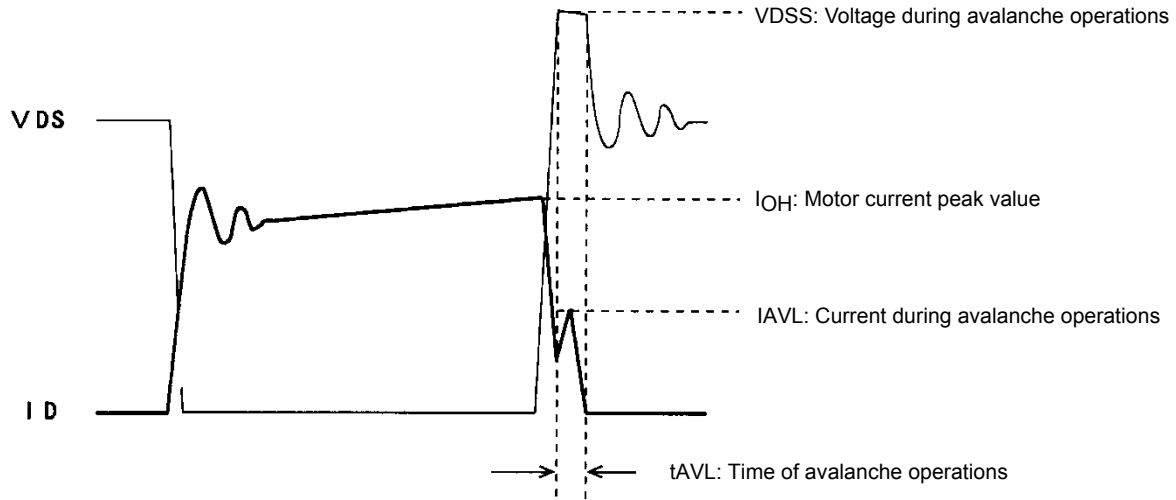

Figure 1 Output Current, I_D , and Voltage, V_{DS} , Waveforms 1 of the STK672-4** Series when Driving a 2-Phase Stepper Motor with Constant Current Chopping
When driving a 2-phase stepper motor with constant current chopping using an STK672-4** Series hybrid IC, the waveforms shown in Figure 1 below result for the output current, I_D , and voltage, V_{DS} .
Although the waveforms during avalanche mode are given in Figure 1, sometimes an avalanche does not result during actual operations.
- Increases in V_{DS} , t_{AVL} , and I_{AVL} in Figure 1 due to an increase in the supply voltage from 24V to 36V.
If the factors above are negligible, the waveforms shown in Figure 1 become waveforms without avalanche as shown in Figure 2.